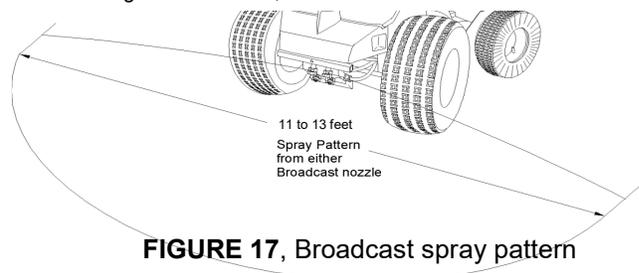

FIGURE 17, Broadcast spray pattern
With the **20 PSI** Pressure Unloader Valve installed at the factory, the sprayer has a **7-FOOT** effective pattern width and an **11 FEET** (3.4 meters) overall pattern width using a single front mounted broadcast nozzle, as shown in **FIGURE 17**. The spray distribution pattern allows the use of a **7-FOOT** (2.1 meter) overlap spreader travel pattern to achieve an even and complete coverage of the sprayed product on the entire turf area by overlapping the edge of the last spray pattern approximately **2 FEET** (.61 meter). Using a trim nozzle provides an even finished distribution over a spray pattern of **3-FOET** (.91 meters) on the surface being treated.
- Spray for 15 SECONDS until the spray pattern is visible on the surface. The spray pattern should resemble the 11-14 FEET spray pattern in FIGURE 17. Adjust as follows: